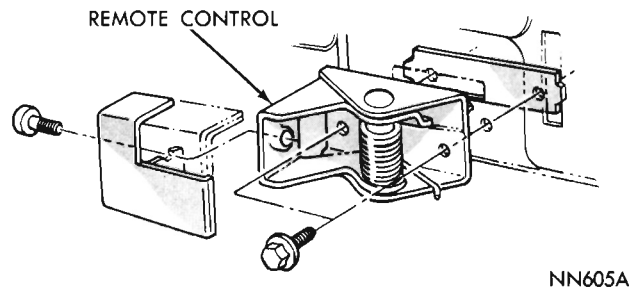

Fig. 13 - Remove Control Handle
The remote control handle (Fig. 13) is attached to the control unit with a screw at the rear inner end.
- (1) Raise door glass.
- (2) Remove screws attaching remote control base to door panel (Fig. 13 and 14).
- (3) Remove link from remote control lever.
- (4) Remove control through large opening in door.